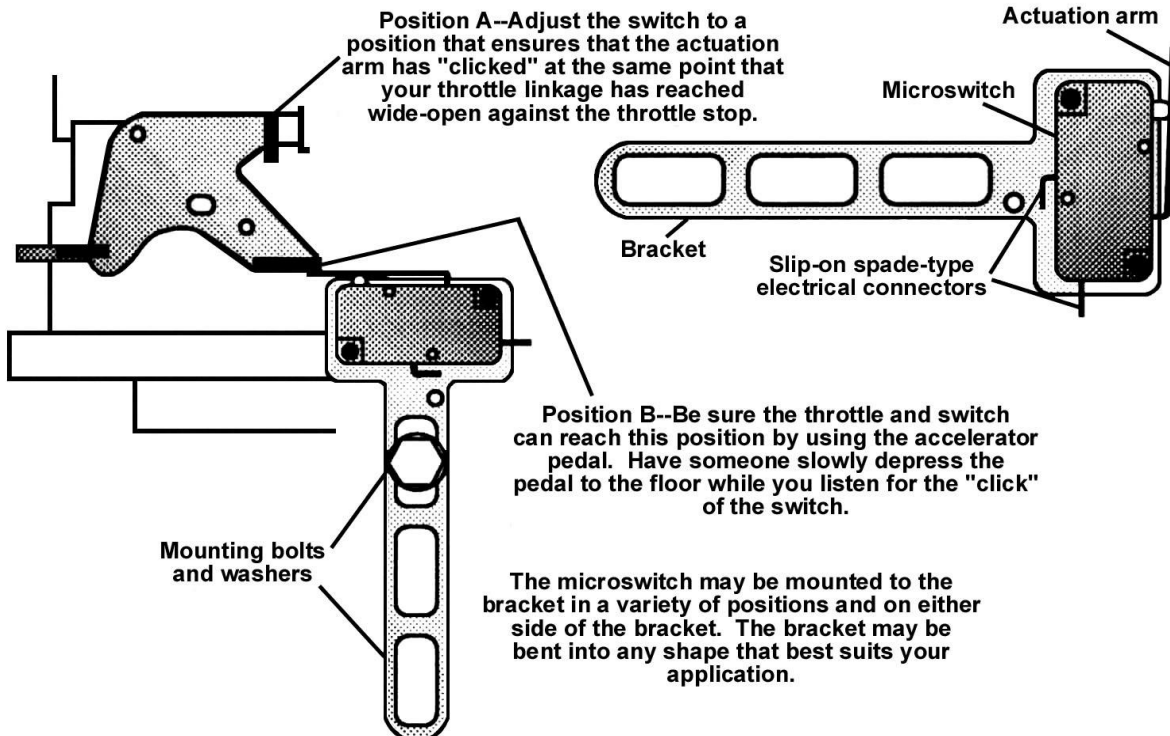

Figure 10 Microswitch Mounting
- B. Adjust the microswitch to trigger at wide-open throttle by adjusting the microswitch's position to ensure the actuation arm of the microswitch "clicks" at the same point your throttle linkage reaches wide-open throttle against the throttle stop (Figure 10, Position A).
- C. Ensure that the throttle and switch can reach the activation position, as shown in Figure 10, Position B, by using the accelerator pedal. Have an assistant slowly press the pedal to the floor while you listen for the "click" of the microswitch.
3. Install the NOS arming toggle switch (18) in the vehicle interior, within easy reach of the driver. This switch is to be used to activate the nitrous system once safe engine RPM levels are reached.